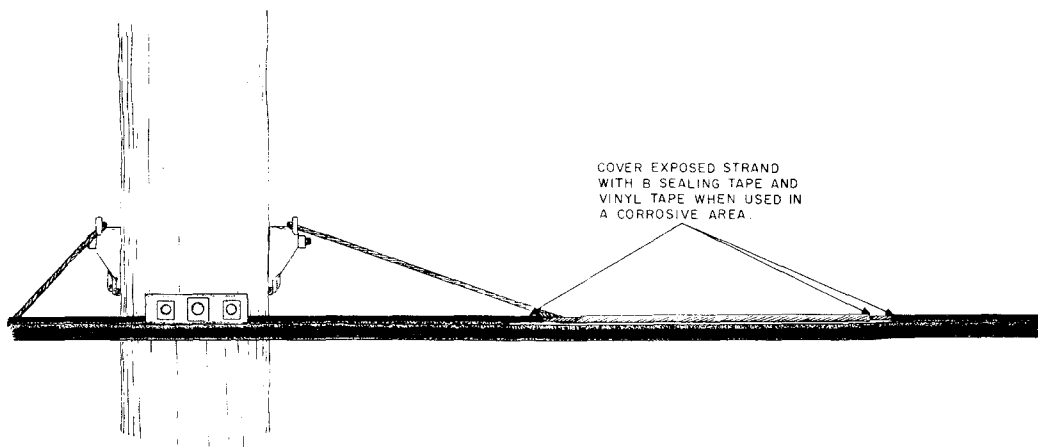

Fig. 15—B False Deadend Installed on Self-Supporting Cable
- 3.09 A B false deadend installed on self-supporting cable is illustrated in Fig. 15.